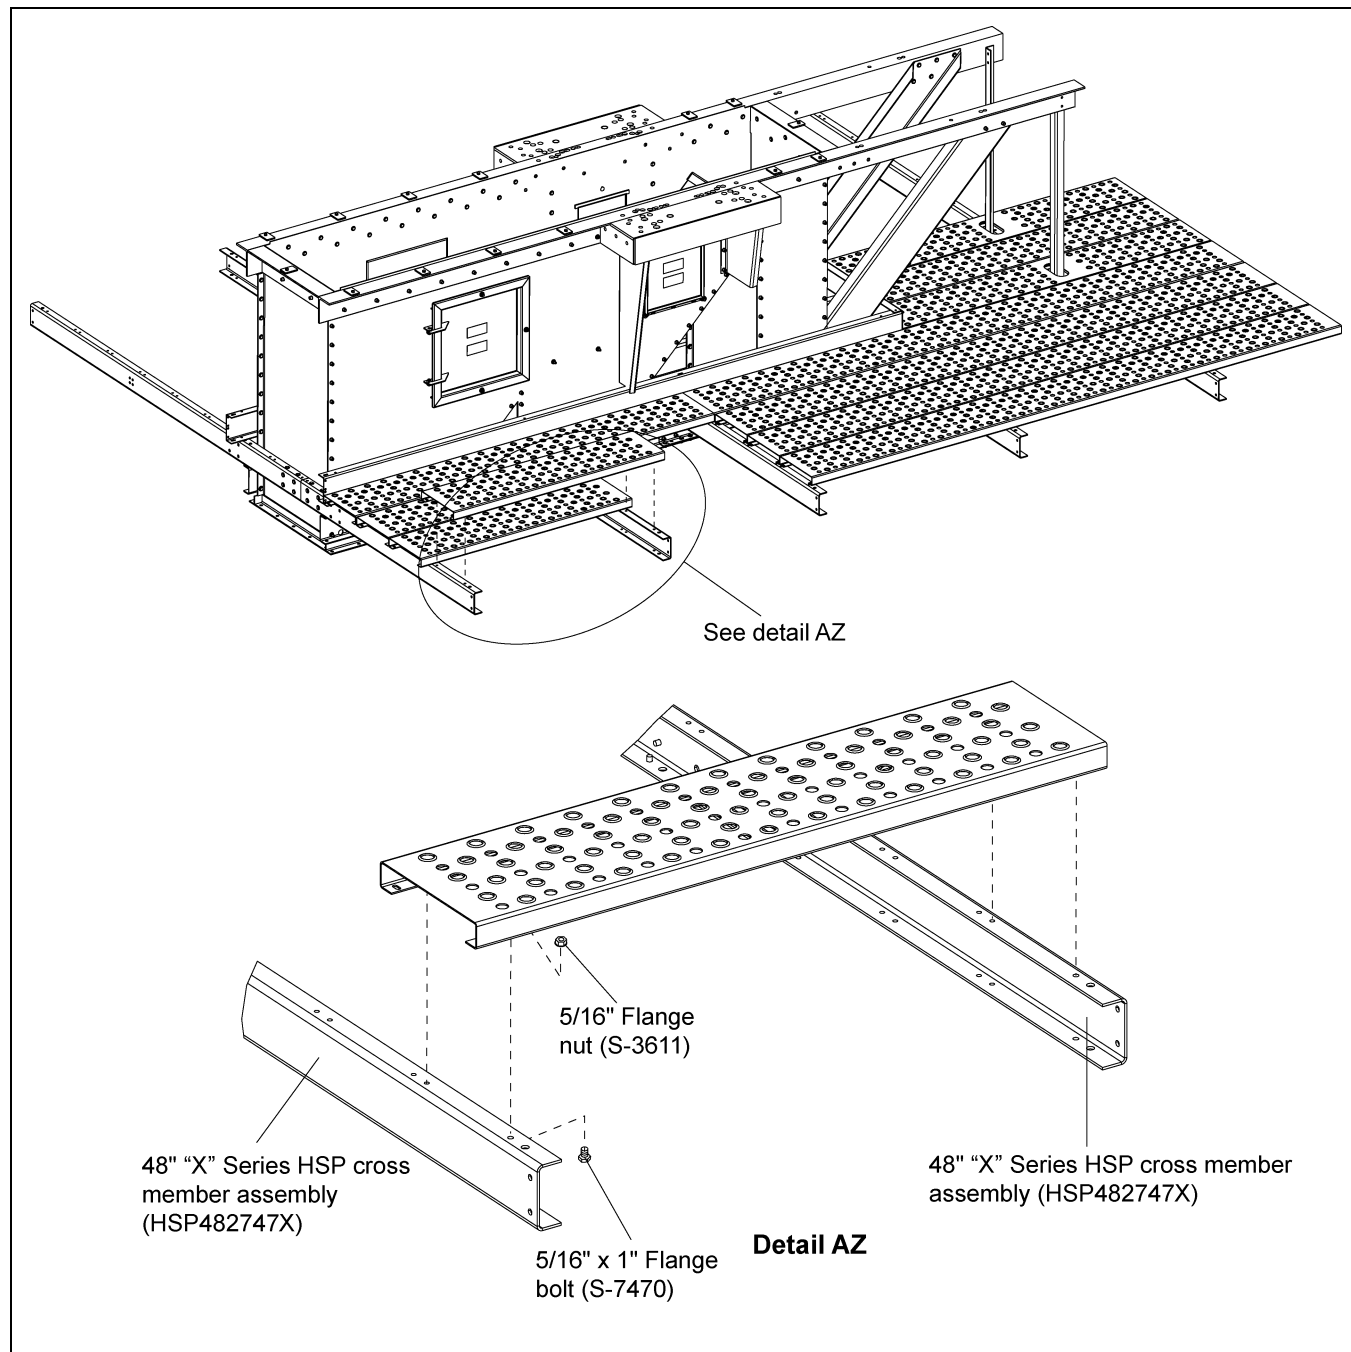

Figure 9K
1. Install the first deck plank (HSP48007X) on the hatch side at the down-leg end against the toe board across all three (3) support channels (HSP42065X).
2. Next install the three (3) deck planks (HSP48008X) to the two (2) support channels (HSP42065X), leaving an opening for the hatch.
3. Fasten the decking to the support channels (HSP42065X) using 5/16" x 1" flange bolts (S-7470) and 5/16" flange nuts (S-3611). (See Figure 9K.)